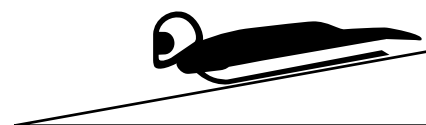

FIGURE MS 3.02
The kinetic energy (KE) of the bob skeleton and athlete in figure MS 3.02 is: